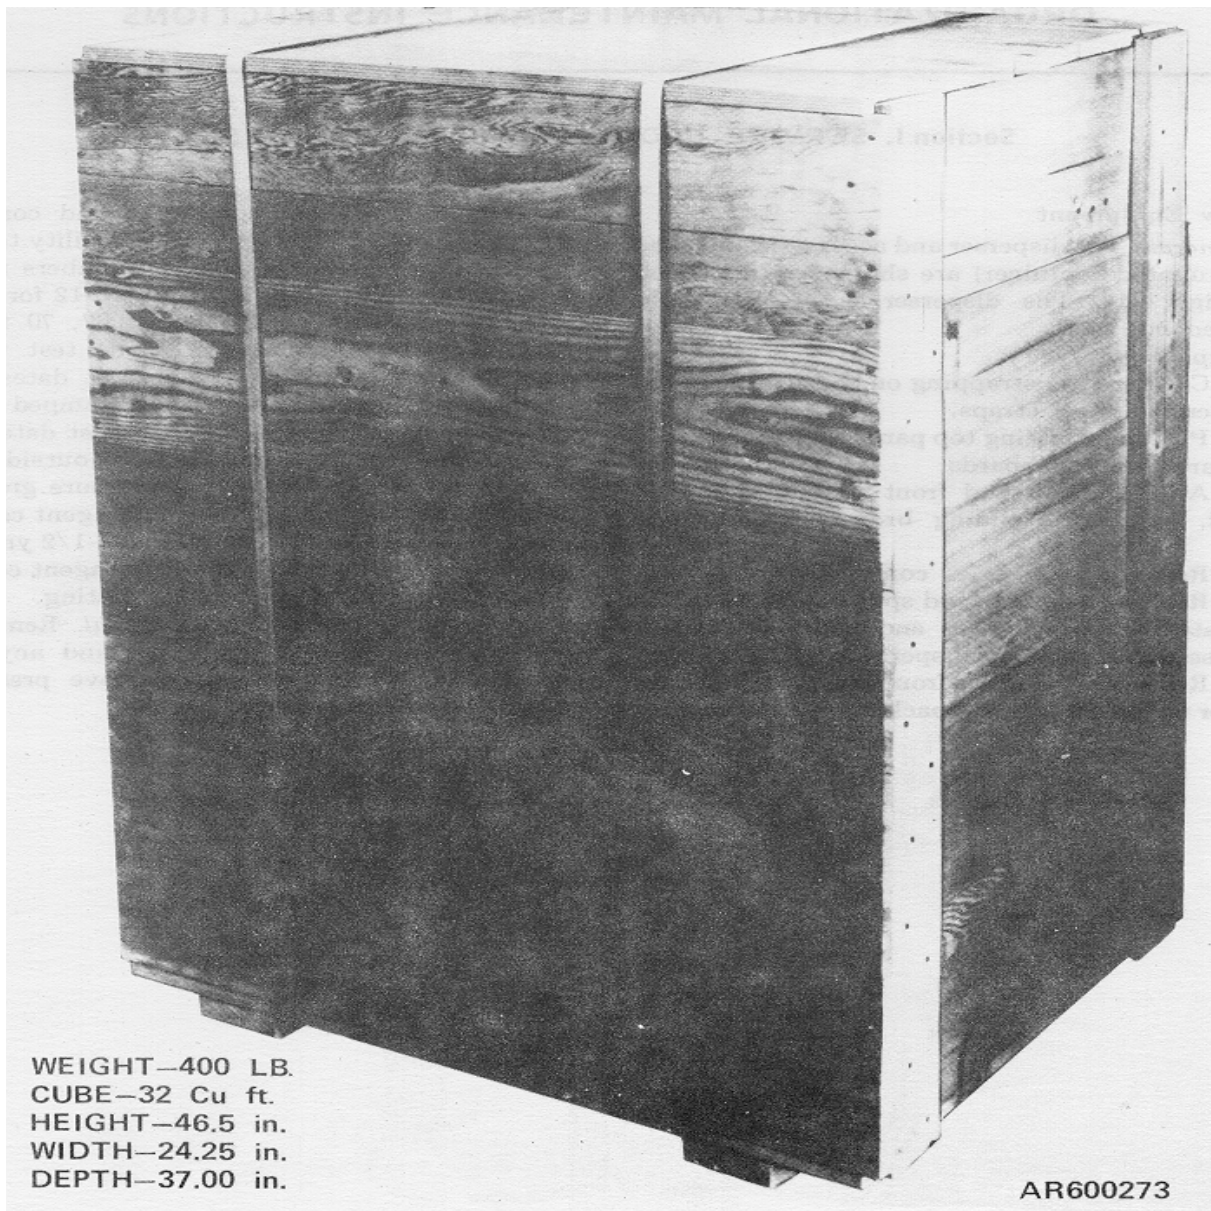

Figure 4-1. Disperser wooden crate.
a. General. The disperser and accessories (packed in a corrugated container) are shipped in a wooden crate (fig. 4-1). The disperser is shipped fully assembled but inert.
(1) Cut the steel strapping on the outside of the crate. Remove steel straps.
(2) Pull nails holding top panel boards and front panel boards. Remove boards.
(3) After the top and front panels have been removed, pull nails holding braces. Remove the braces.
(4) Remove accessories container from crate.
(5) Remove disperser and spare agent container from crate. Keep all braces and panel boards for future use in reerating the disperser and accessories.
(6) Remove accessories from container and save container for future use in repacking the accessories.
(7) Inspect agent containers and compressed gas cylinders for evidence of serviceability tests. The test dates are coded as follows: Numbers represent the month and year (e.g., 1 through 12 for January through December, and 67 for 1967, 70 for 1970, etc.). Example: 4-67 indicates the test was per-formed during April 1967. The test dates for the compressed gas cylinders are stamped on the shoulder just below the neck. The test dates for the agent containers are stamped on the outside surface of the steel support facing the pressure group. The ltest test date on the cylinders and agent containers must be within the last 54 months (4-1/2 yrs). If the time has expired on any cylinder or agent container, return it to general support for testing.